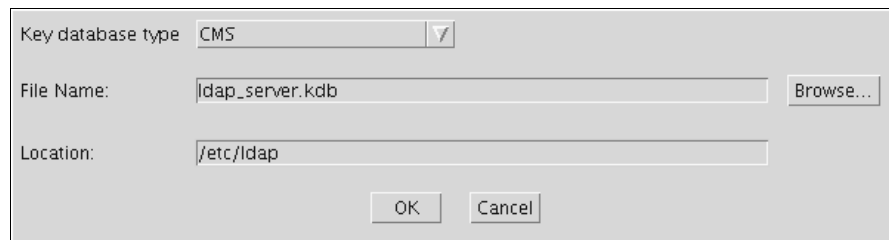

Figure 16-4 Creating the ldap_server key
4. On the same window, change the Key database type to CMS, change the File Name (to `ldap_server.kdb`, in this example), and set the Location to a directory where the keys can be stored (`/etc/ldap`, in this example). The final window will be similar to Figure 16-4.